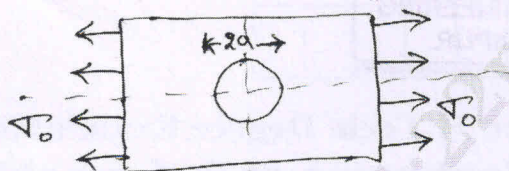

Fig.Q6
- 6 Discuss the effect of circular holes on stress distribution in plates for plate shown in Fig.Q6.